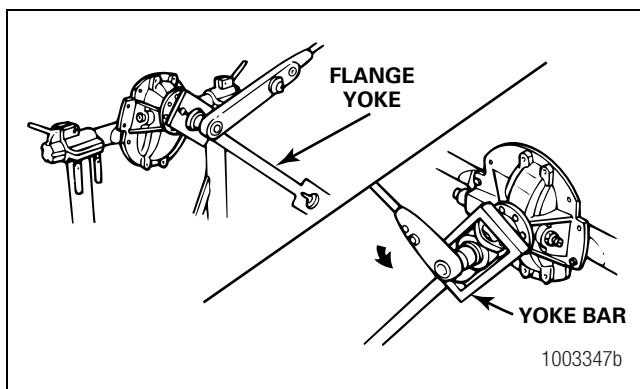

Figure 3.21
1. Fasten a flange bar to the input yoke or flange. When the nut is removed, the bar will hold the drive pinion in position. Figure 3.21.
2. Remove the nut and washer, if equipped, from the drive pinion. Figure 3.21.